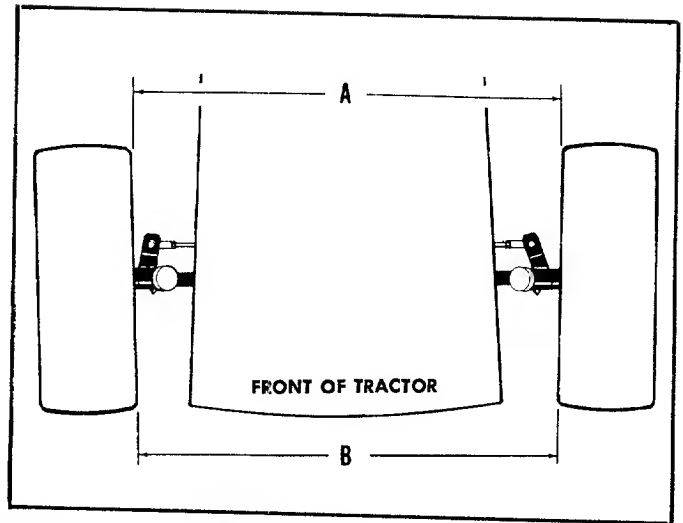

FIGURE 24. TOE-IN DIAGRAM
- Step 3. Adjust the tie rod end in or out to obtain the proper toe-in adjustment as shown in figure 24.